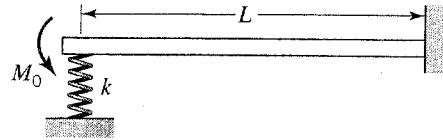

FIGURE P5.66
- 5.66.** The beam in Figure P5.66 is fixed at the right end and rests on a coil spring with spring constant k at the left end. Assuming that the beam length is large compared to its depth, determine the force R in the spring.